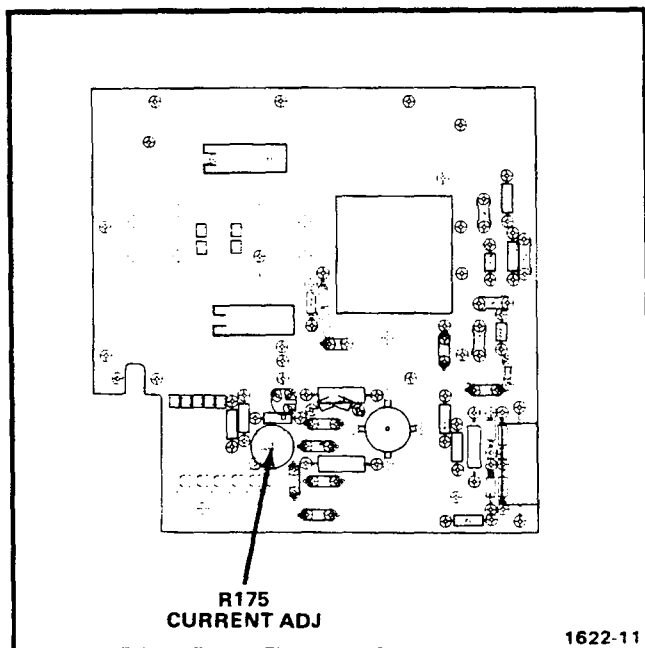
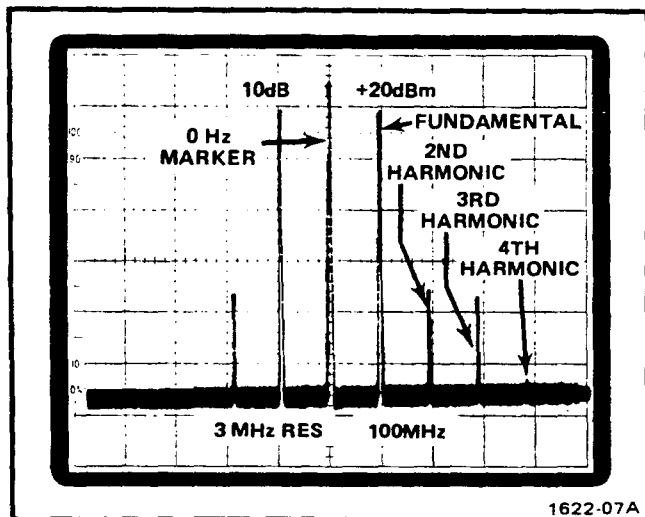

Fig. 3-4. Location of R175 Current Set adjustment.
Fig. 3-5. Display of 100 MHz signal and harmonics.
c. Position the 0 Hz marker display to the center graticule line with the spectrum analyzer position control. See Fig. 3-5 for reference.
d. Position the fundamental to the top graticule line with the spectrum analyzer vertical position control. See Fig. 3-5 for reference.
e. Slowly adjust the SG 503 OUTPUT AMPLITUDE control over the 0.5 volt to 5.5 volt range in both directions and check for at least 3.5 division vertical separation between the top of the fundamental and the top of the second harmonic display (35 decibels down). See Fig. 3-5 for harmonic reference.
f. Adjust—Current Adj, R175, for at least 3.5 division vertical separation between the top of the fundamental and the top of the second harmonic display. Repeat part e of this step. See Fig. 3-4 for adjustment location, and Fig. 3-5 for reference.
c. Position the fundamental to the top graticule line with the spectrum analyzer vertical position control. See Fig. 3-5 for reference.